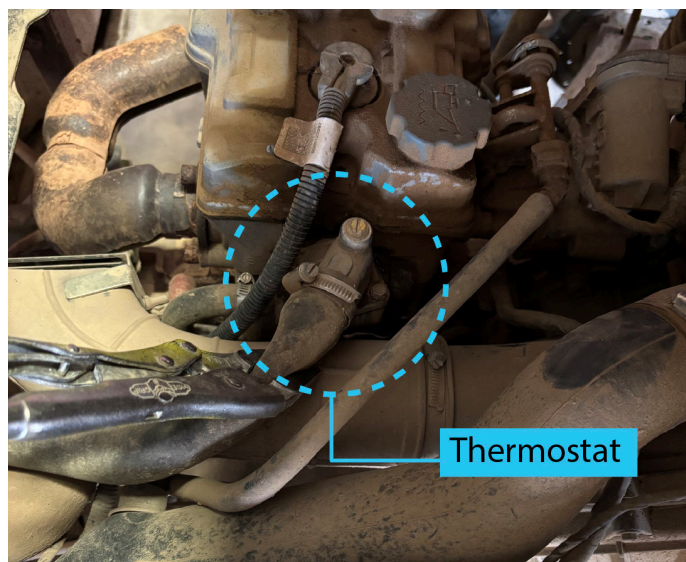

FIGURE 9
31. Locate the thermostat on the engine. FIGURE 9